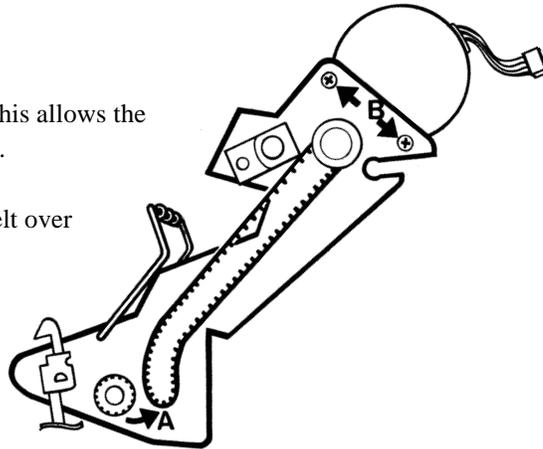

Figure 4.10 Chart motor / drive belt replacement
As shown in figure 4.10, slide the drive belt off the pinion (A). This allows the motor to be replaced by removing the two screws (B in the figure).